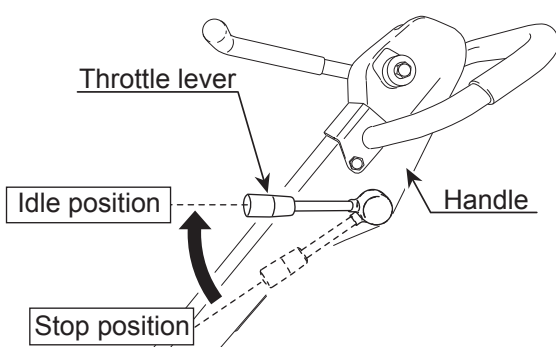

Figure 11. Throttle Lever (Idle Position)
2. Move the throttle lever (Figure 11) to the **idle** position.